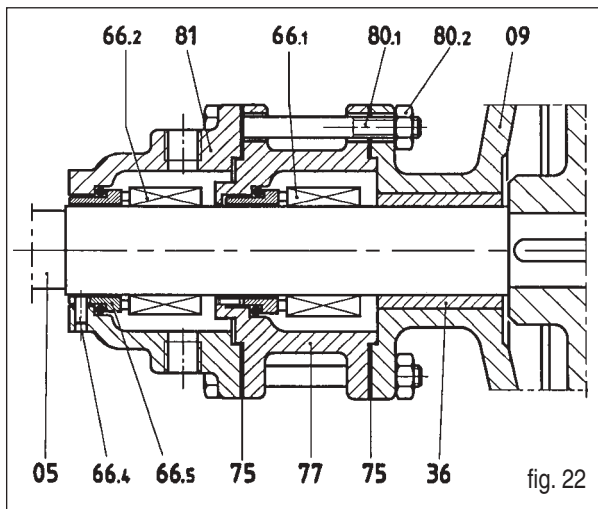

fig. 22
- Block the security dowels (45) of the lock rings (14,15).
6.6 Mounting the ST7 double mechanical seal (fig. 22)